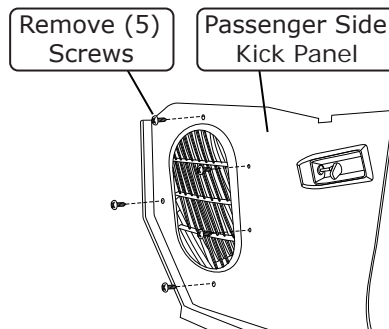

Figure 4
16. Remove the passenger side kick panel by removing (5) screws (discard screws) (See Figure 4, below).
17. On 1968 models, remove the driver- and passenger-side louvers by removing (2) mounting screws from each louver bezel (See Photo 9, below).